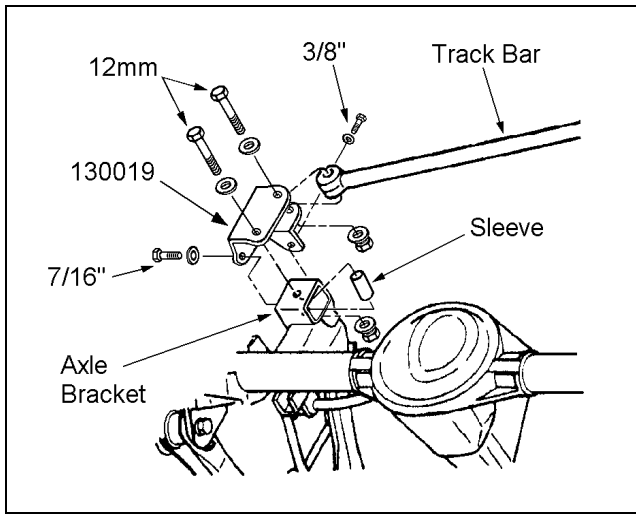

Figure 13
- 1) ☐ Place track bar bracket 130019 on top of the axle bracket as shown in figure 13. To properly align the bracket, insert a 12mm bolt from kit 860072 through both brackets.
- 3) ☐ Reinstall the track bar bracket and attach it to the axle with the sleeve and hardware from kit 860072. See Figure 13. Tighten to specification.